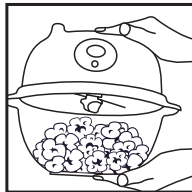

Fig. 6
8. Hold the Bowl Handle and the Base Handle together and flip the popcorn maker over. You can also hold by the Measuring Cup and the Base of the Popcorn Maker. (Fig. 6)